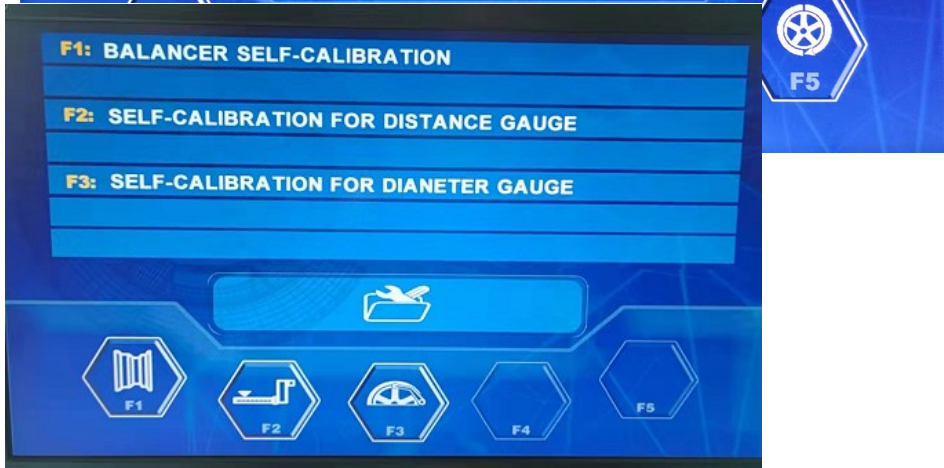
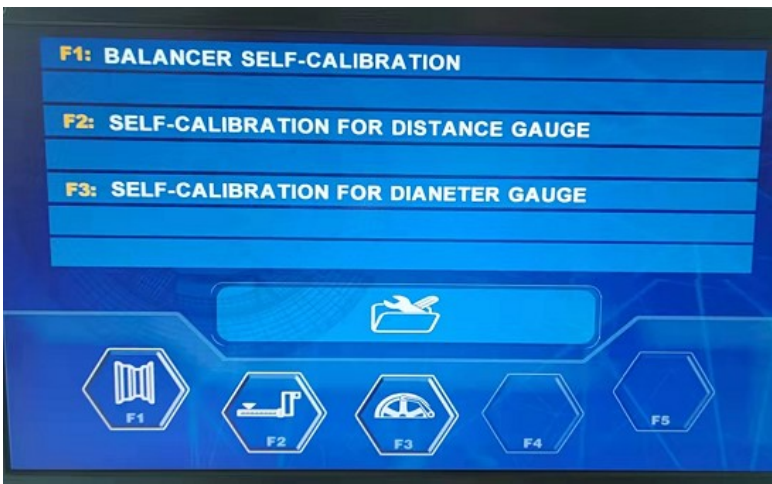
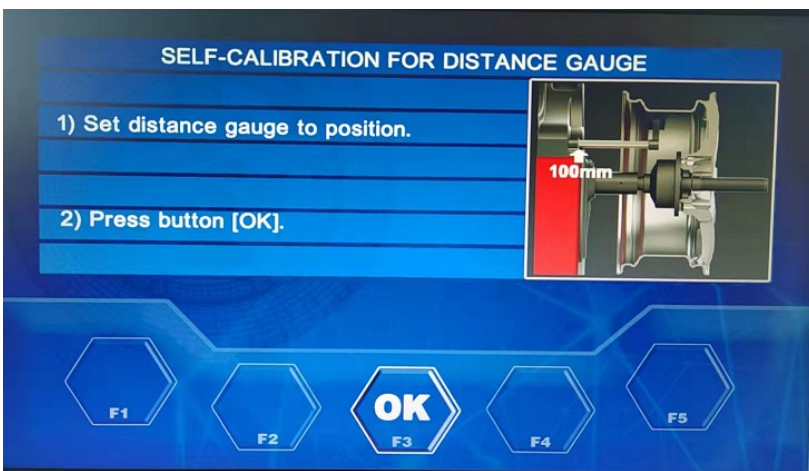
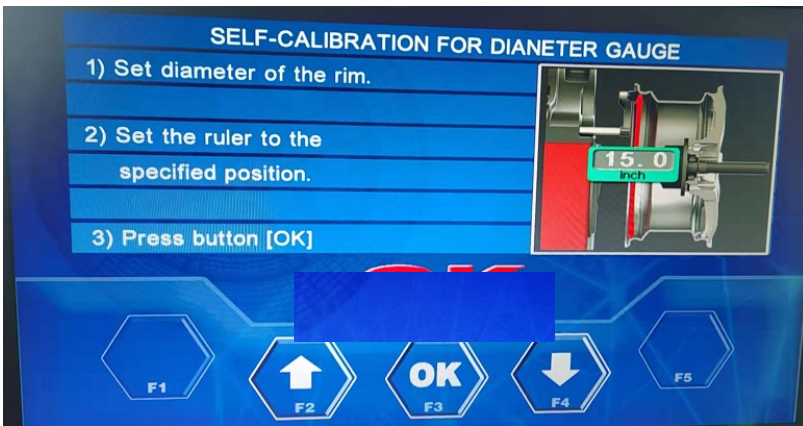

Fig.2
Fig.7
Fig.8
FIG.11
2. F3 Enter the system calibration interface (Fig.2)
1.As Fig 7ress key "F3"get into the gauge calibration menu(FIG.7)
Follow Fig.7 ,Press Key F2, get into the“A” alvaue (DISTANCE) gauge calibration menu(FIG.8)
As FIG.2, press key "F3" get into the gauge calibration menu (FIG.7)
As FIG.7, press key "F3" get in to the Diameter gauge calibration menu.(FIG.11)